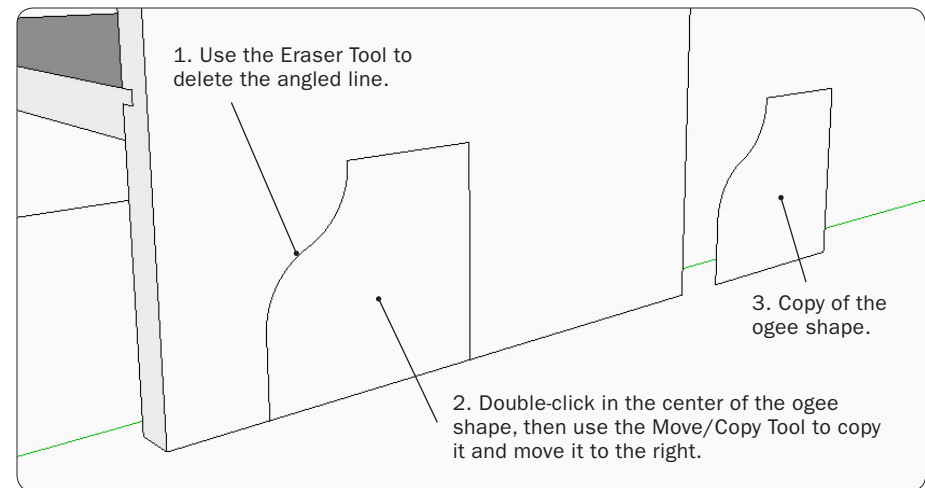

Figure 9. Clean up the ogee shape and copy it.
Step 6 Use the Eraser Tool to delete the angled line on the path of the ogee curve. Use the Move/Copy Tool to copy the shape you just drew (Figure 9).